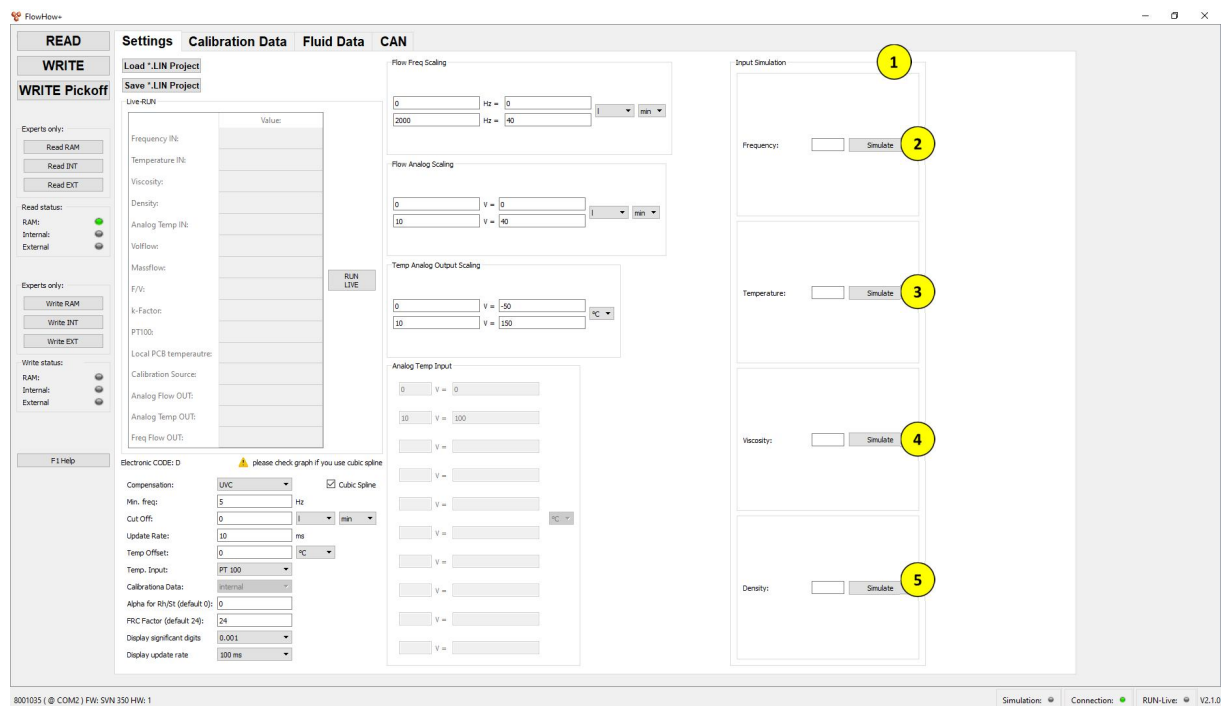

Fig. 20 Simulation
In the "Input Simulation" (1) area, the software allows simulation of the following input signals [Fig. 20 ]:
- Frequency (2) [Fig. 20 ]
- Temperature (3) [Fig. 20 ]
- Viskosity (4) [Fig. 20 ]
- Density (5) [Fig. 20 ]